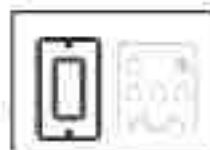

Figure 1
1. About Light Memory: (Figure 1)
Low-profile use (Figure 1)